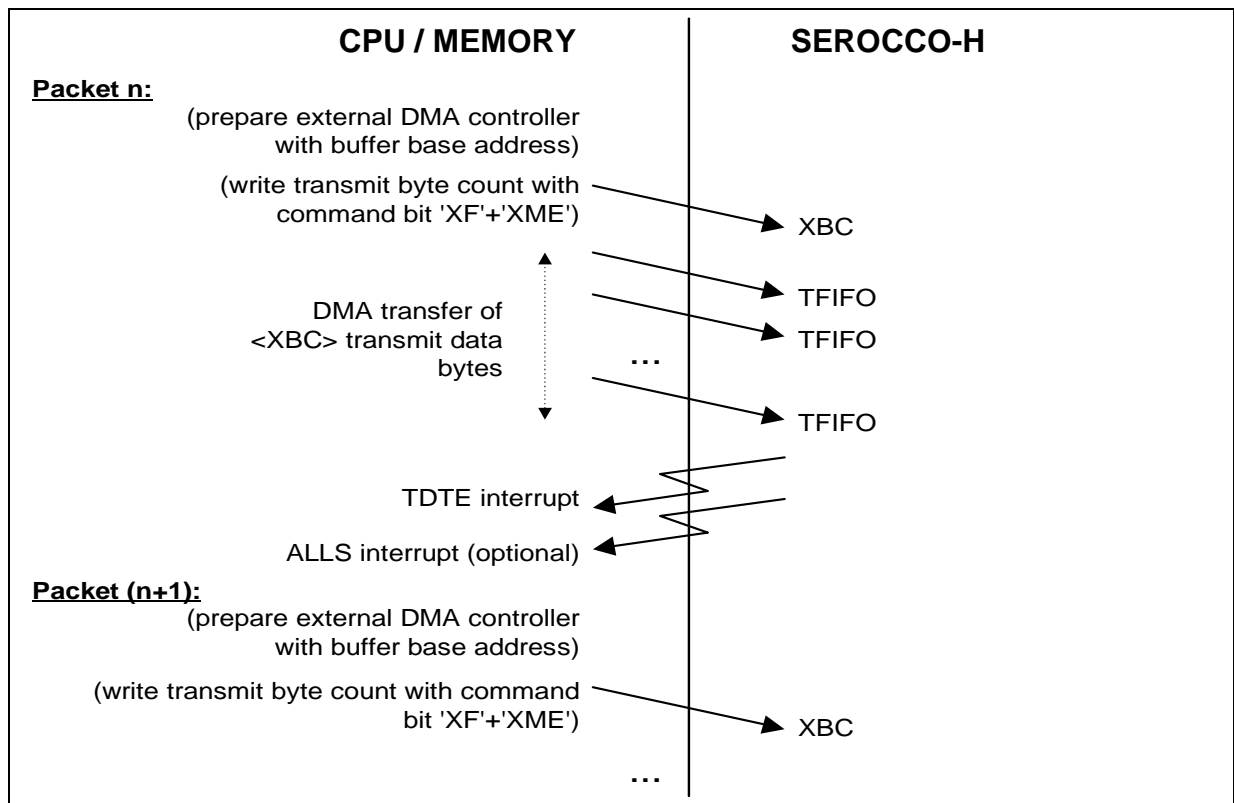

Figure 55 DMA Transmit (Single Buffer per Packet)
- If the prepared transmit buffer in memory contains a complete packet, the start command for DMA transmission is issued by setting bits 'XF' and 'XME' in register **XBCH** to '1'. The DMA support logic will request the external DMA controller to transfer data into the XFIFO . After the last byte has been transmitted, the protocol machine appends the trailer (e.g. CRC and Flag in HDLC), if applicable. The Transmit DMA Transfer End (TDTE) interrupt is generated (refer to **Figure 55**).